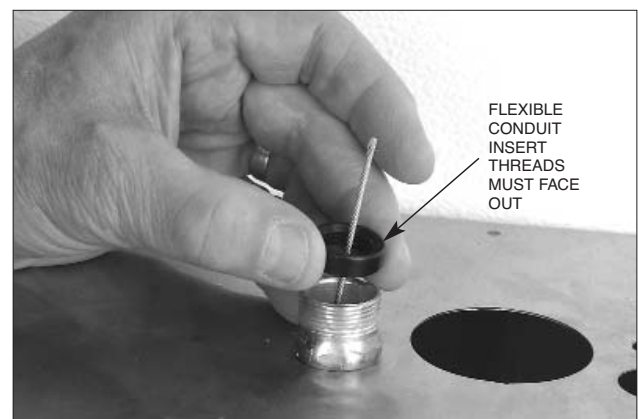

FIGURE 49
4. Thread the stainless steel wire rope through the EMT conduit connector and flexible conduit insert. Make certain thread in flexible conduit insert is facing out toward end of connector. See Figure 49.